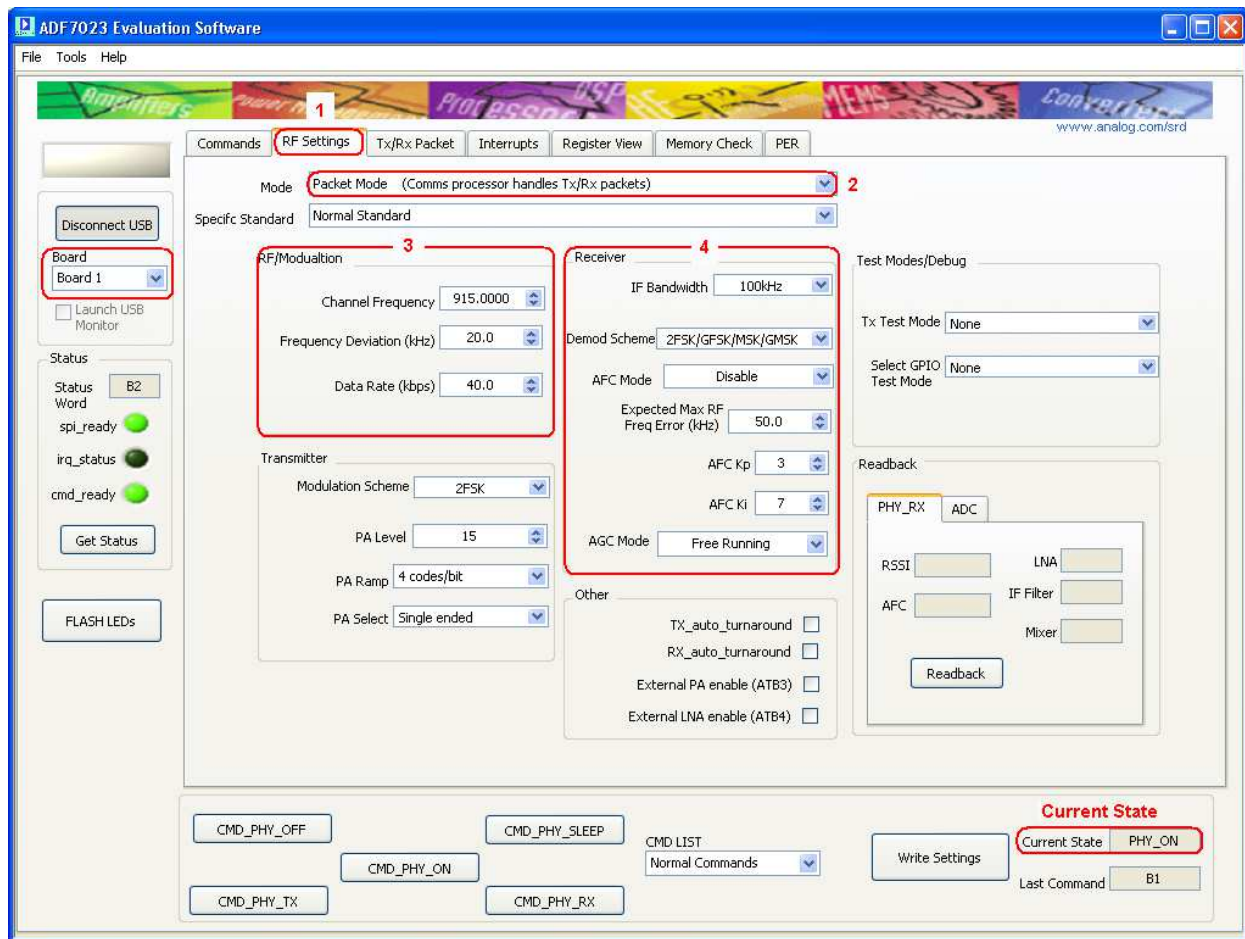

Figure 31
2. Select the “**RF Settings**” Tab (Figure 31 point (1))
3. Ensure “**Packet mode**” is selected. (Figure 31 point (2))
4. Set the “**RF/Modulation**” parameters as required. (Figure 31 point (3))
5. Set the “**Receiver**” parameters as required. (Figure 31 point (4))